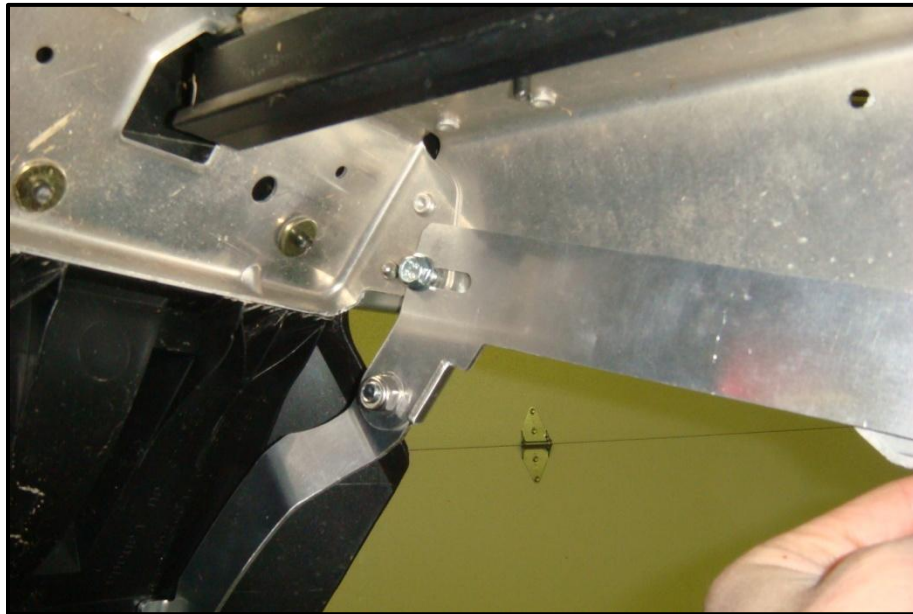

Figure 5 –LH side Snow Flap Saver being assembled to rear mounting bolt (4)
6. Place the LH Snow Flap Saver assembly that was assembled in step 2 into the LH side of the tunnel and slide it rearward so that the rear bolt (4) slides into the slot at the rear of the mounting base (3) as shown (Figure 5).